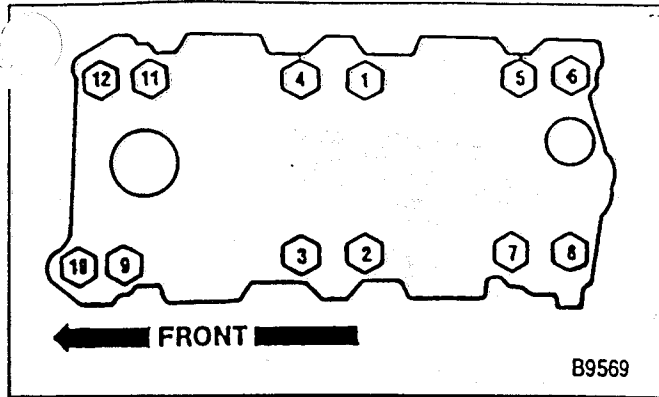

Figure 95—Intake Manifold Bolt Tightening Sequence (5.0L and 5.7L Engines)
- Bolts (19) and studs (20) to 47 N·m (35 lbs. ft.) using the tightening sequence shown in figure 95.